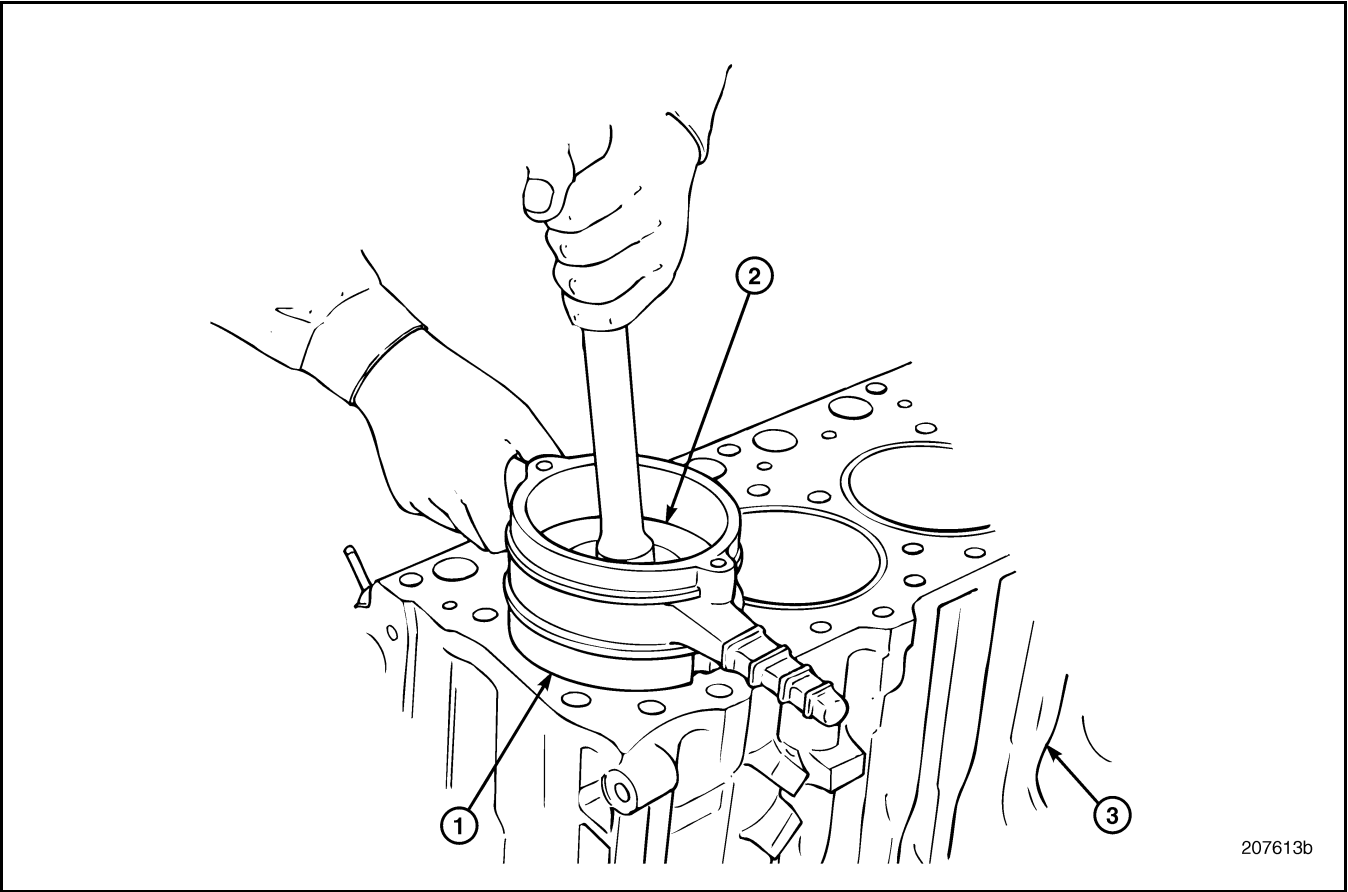

Figure 331 — Pushing Piston into Cylinder Sleeve
- 11. While applying downward pressure to the ring compressor tool to keep it in contact with the cylinder sleeve, use a hammer handle to push the piston through the tool (Figure 331). Continue pushing on the piston until the top ring has passed into the cylinder sleeve.